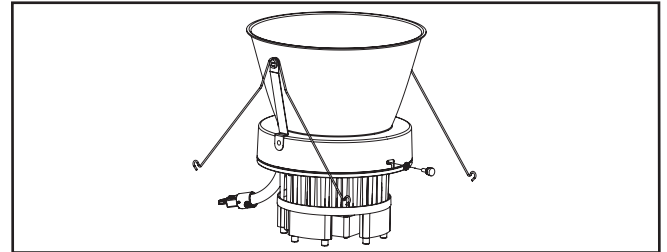

Figure 7.
- Using provided thumb screws, securely attach lower trim to LED Engine. Align Power Plug from LED Engine with housing connector and push together. Electrical connection has now been made. (Figure 7.)